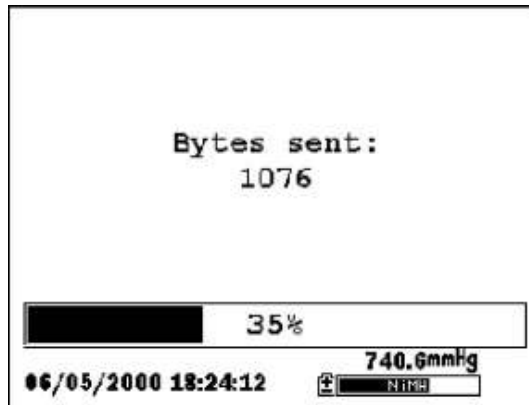

Figure 8.3 File Transfer Progress Screen
4. Press the **Enter** key. The file list screen is displayed. See Figure 8.3 File List Screen.